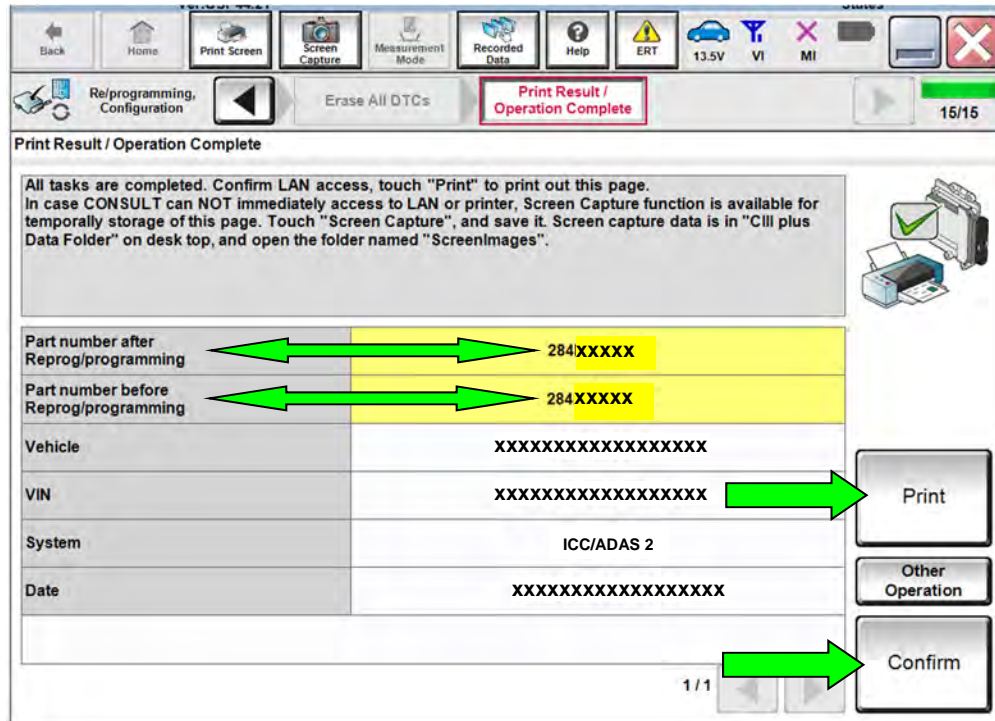

Figure 25
HINT: When the entire reprogramming process is complete, the screen in Figure 25 will display.
40. Print a copy of the screen below (Figure 25) and attach it to the repair order for warranty documentation.